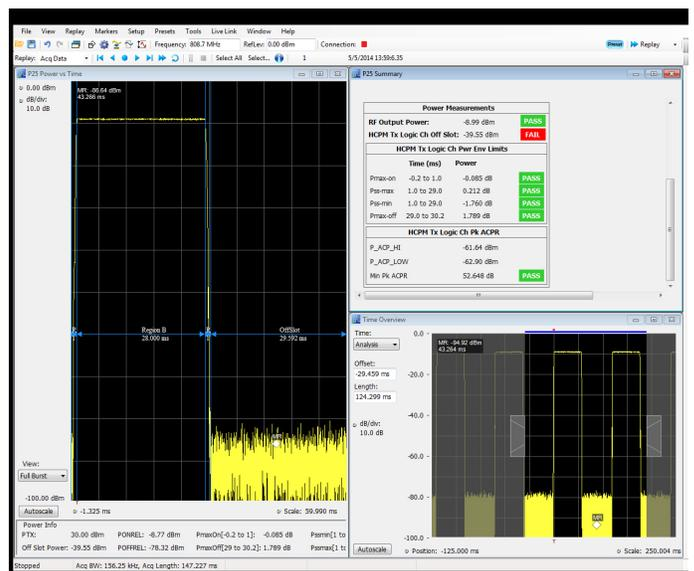

Figure 23. H-CPM Two-Slot TDMA timing diagram and logical channel peak ACPR measurement.
■ **How-to:** The user should bring up the P25 Summary display control panel. In this panel, the user should verify no Trigger Measurement have been selected (under the Trig. Meas tab), they also need to select the correct test pattern under Test Patterns that is modulating the DUT before pressing Run (an inbound symmetrical timeslot standard test pattern) as shown in Figure 23. This measurement is done by calculating power in the adjacent channels for the entire duration of data chosen by the user including the power ramp up and ramp down portions (standard recommends 360 ms of data for this measurement), unlike the other ACPR measurement where the analysis is done